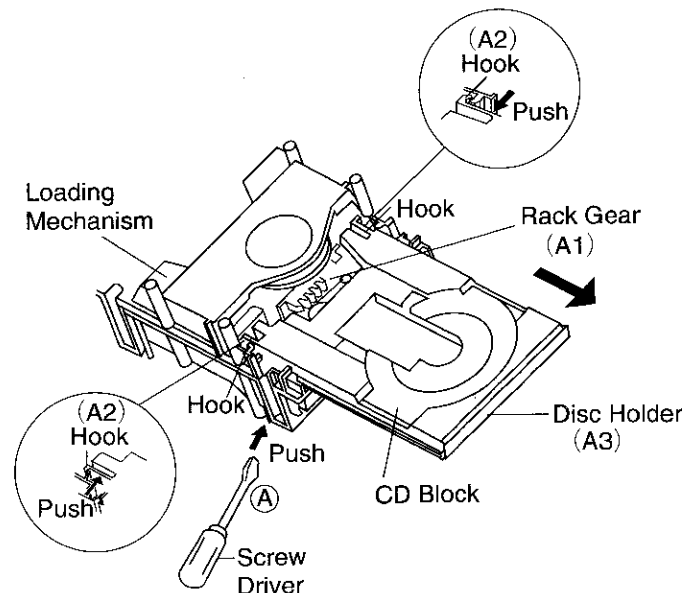

Figure 12-3
**How to remove the disc holder (See Fig. 12-3.)**